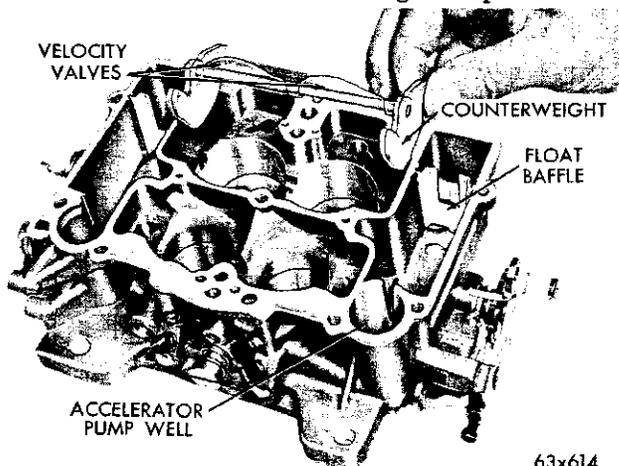

Fig. 67—Removing or Installing the Velocity Valves
(5) Lift out the velocity valves and counterweights, as shown in Figure 67.
(2) Slide the new valve (or valves) down into the bore and through the slot in the shaft. Install new screws but do not tighten.
(3) Hold the valves in place with the fingers pressing on the high side of valves. Tap the valves lightly with a screwdriver to seat in the throttle bores.
(4) Holding the valves in this position, tighten the screws securely and stake by squeezing with pliers.
(5) Install the two idle mixture adjusting screws and springs in the throttle body. The tapered portion of the screws must be straight and smooth. If the tapered portion is grooved or ridged, new idle mixture screws should be installed to insure having correct idle mixture control. **DO NOT USE A SCREW DRIVER.** The adjustment should be made with the fingers. Turn the screws lightly against their seats then back off one full turn for approximate setting.
(6) Install the velocity valves and counterweights (Refer to Fig. 67).